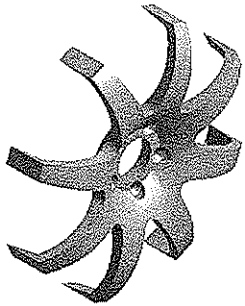

Figure 5-29 Model after patterning the cut feature
12. Choose the **Generate** tool from the **Features** toolbar; the circular pattern is generated by creating four more instances of the cut feature about the X axis, refer to Figure 5-29.